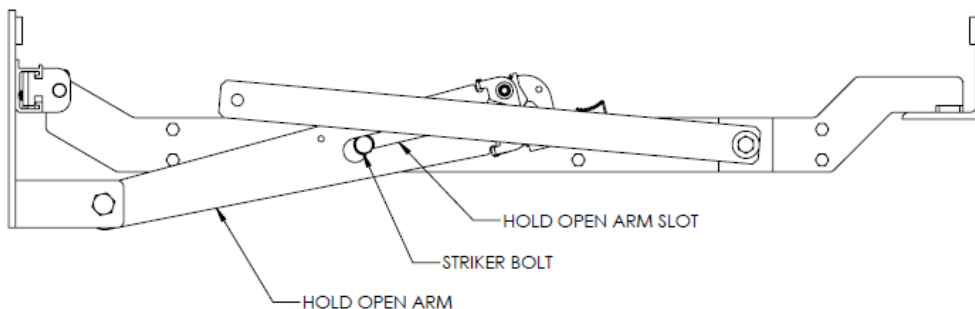

Figure 4
- a. Remove striker bolt from aluminum boss on grate plate. (See Fig. 4)